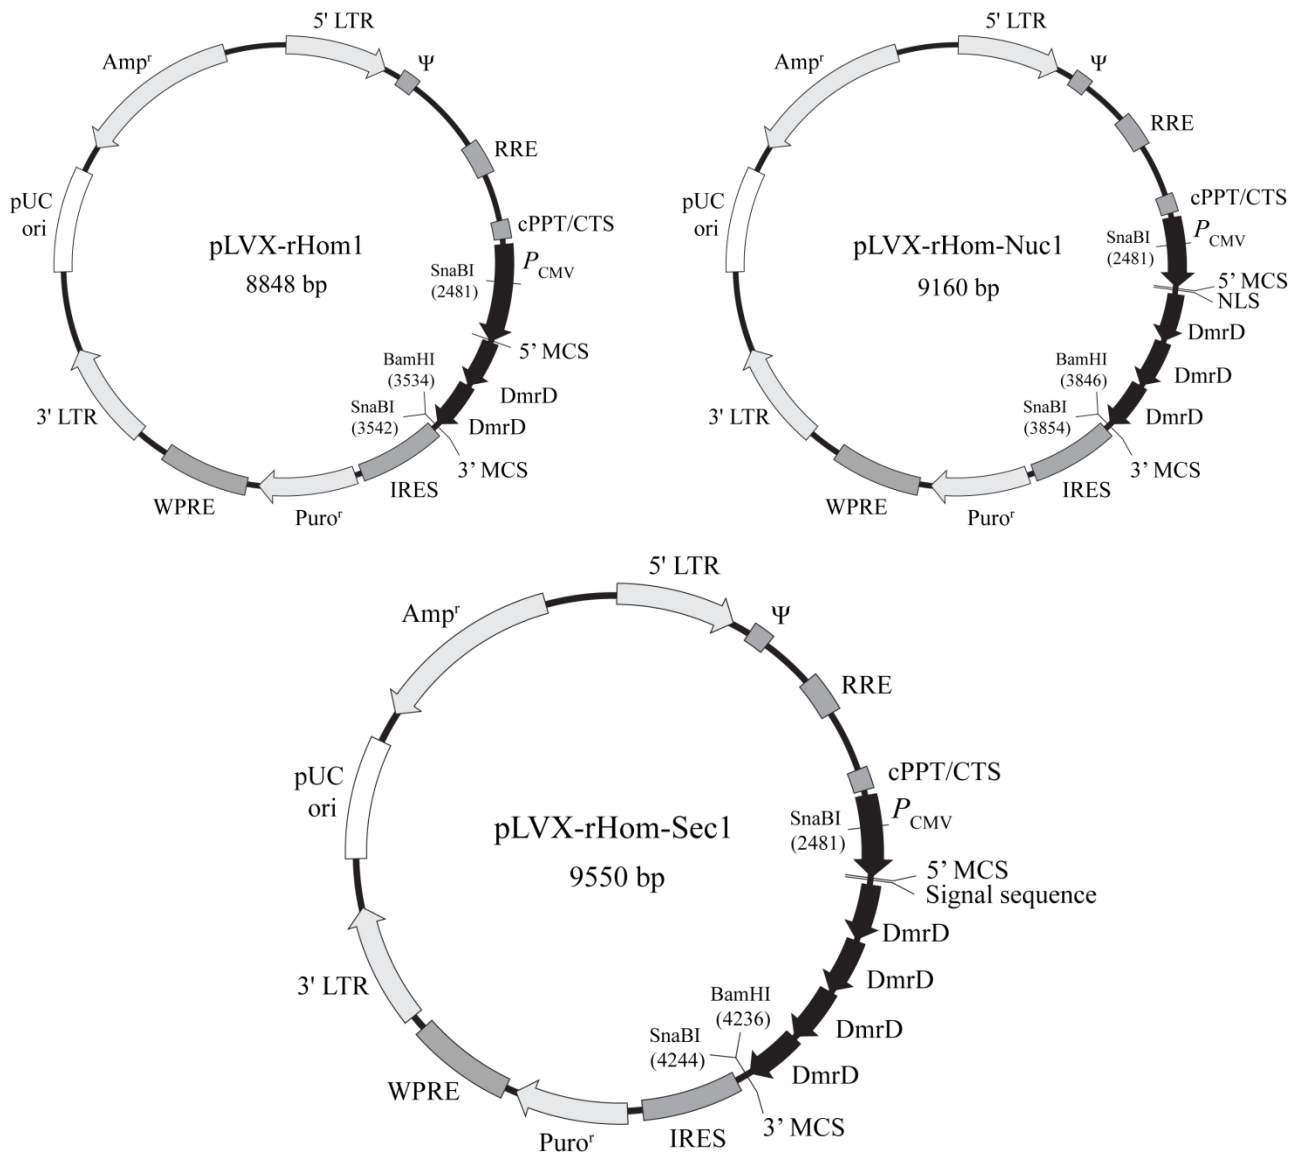

Figure 4. pLVX-rHom-1, pLVX-rHom-Nuc1 and pLVX-rHom-Sec1 Vector Maps.
- Fusion proteins are created by cloning the gene encoding your protein of interest into the MCS of pLVX-rHom-1 or pLVX-rHom-Nuc1 on either the 5' or the 3' end of the DmrD domains shown in Figure 4.